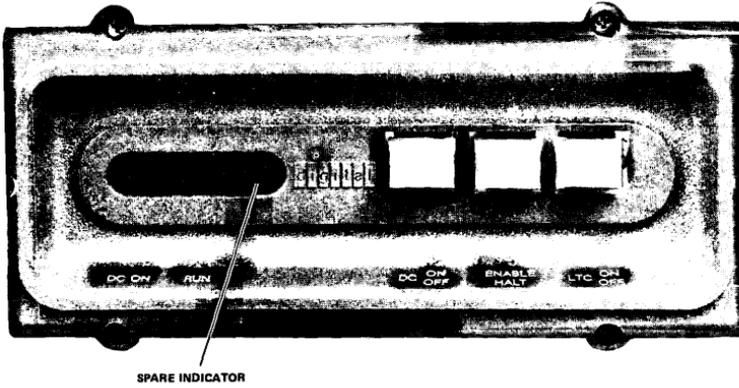

Figure 25 Console Controls and Indicators
4. On H780-H and -J options, set the console DC ON/OFF switch (Figure 25) to ON. The DC ON indicator should light. (For master-slave operation, the DC ON/OFF switch and DC ON indicator are located on the user's master supply. The DC ON indicator on the slave should also light.)
Console Controls and Indicators – The H780-H or -J master console has three LED indicators and three 2-position toggle switches. One of the LED indicators is a spare indicator. Circuitry to drive this indicator is included on the console printed circuit board for user application. The console on the H780-K and -L slave supplies has only one LED indicator, DC ON. Figure 25 shows the H780 console controls and indicators; they are described in Table 2. Additionally, the rear panel of the H780 contains an AC ON/OFF toggle switch and an ac line fuse (Figure 12).